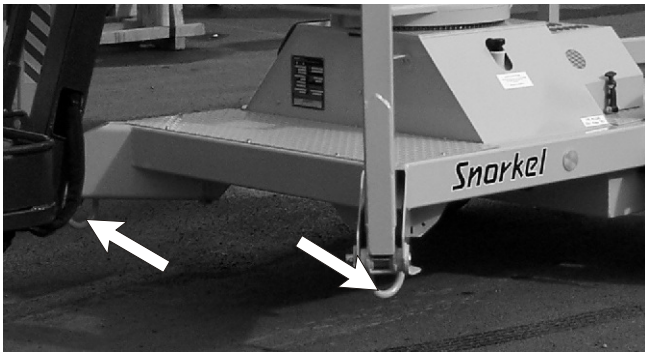

Figure 12.4 - Rear Tie Down Lugs
5. Tie down only with the 4 tie down lugs (see Figure 12.4).